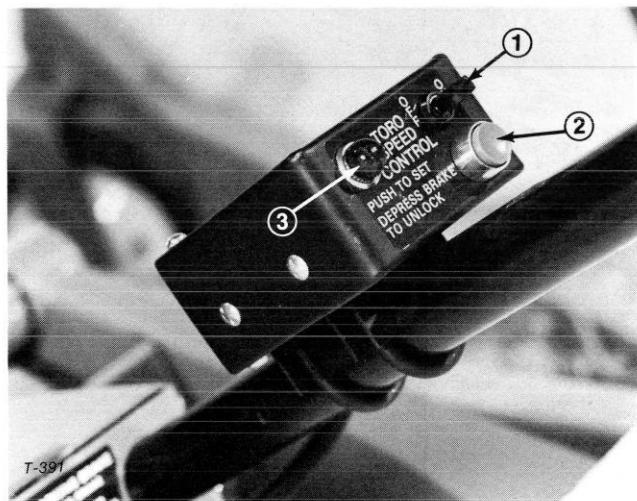

Figure 39
1. Make sure traction pedal is in neutral position. Turn ignition switch in machine control panel to RUN position and toggle switch on cruise control panel to ON (Fig. 39).
2. Press button in cruise control panel (Fig. 39). The clutch plate should be pulled against the coil when button is depressed; if plate does not move, coil is not energized. Check wire connections. If clutch plate moves, proceed to step 3.
4. Depress brake pedal; clutch plate should move away from coil and light should go out on panel (Fig. 39).
7. Sit on seat. Make sure traction pedal is in neutral position, turn machine ignition switch to RUN and cruise control switch to ON position (Fig. 39).
8. Push cruise control actuating button to draw clutch plate against coil (Fig. 39).
3. Hold pedal in position, turn cruise control switch to ON and depress actuating button (Fig. 39).